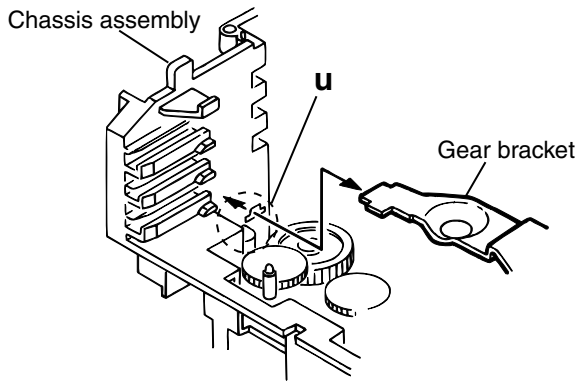

Fig.19
3. From the notch **"u** section" on the chassis assembly fixing the edge of gear bracket, remove and take out the gear bracket(See Fig. 19).